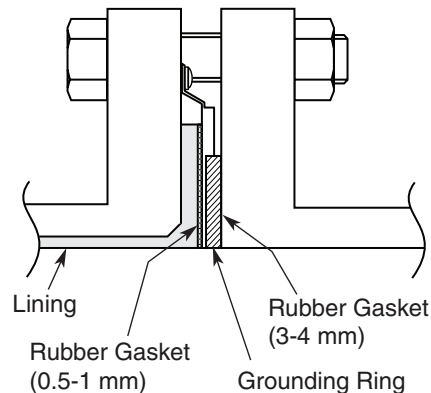

Figure 32. Installation on PVC Pipe with non-316 ss Grounding Ring
1. Use this method to install the flowtube to the specified fastening torque. Install the flowtube as shown in Figure 32. See Table 7 for the appropriate fastening torque. For dimensions of the rubber gaskets, refer to Tables 5 and 6.